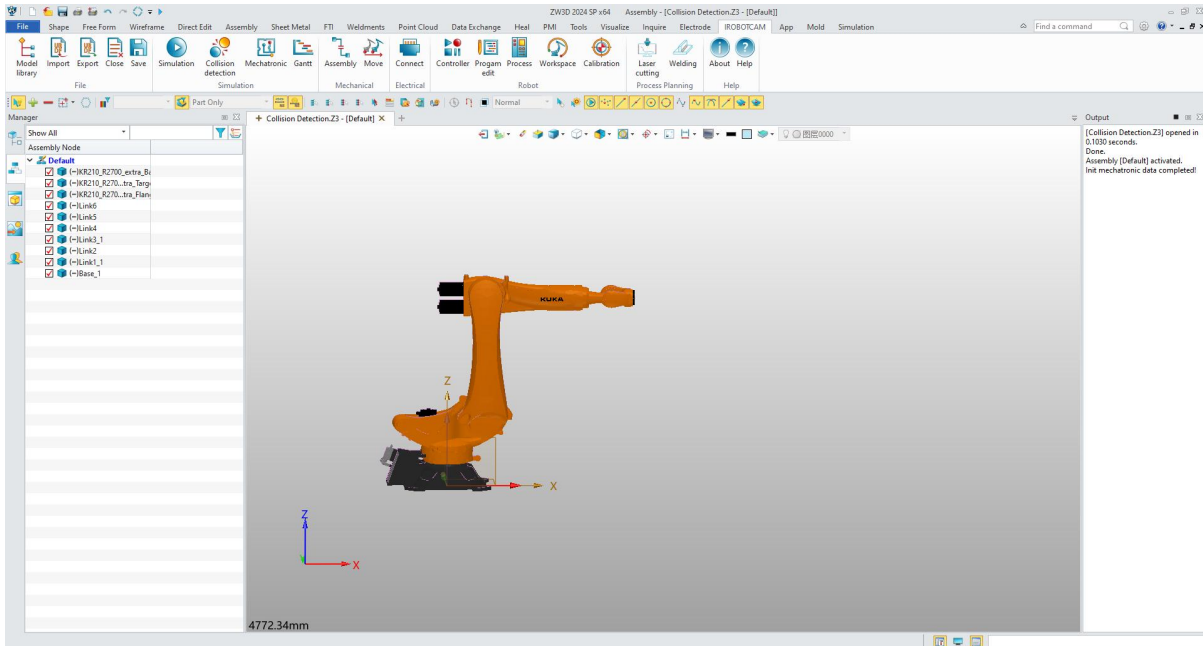

Figure 11-4: Component Details
- The component details will show after enter it.(Figure 11-4)